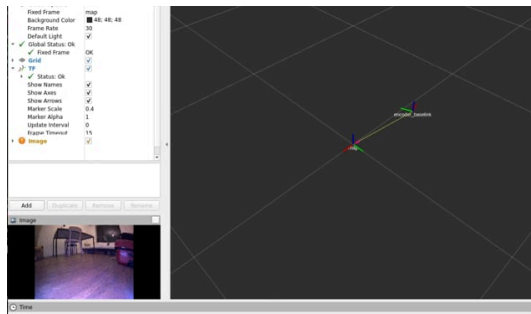

Figure 4.1. Example video deliverable for the encoder localization package
- A screen recording similar to this Figure 4.1 where you drive the robot in a loop